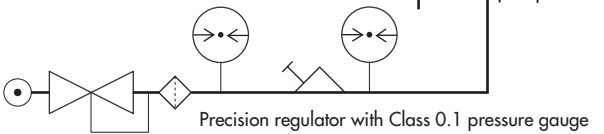

Fig. 8 · Test arrangement and modifying the measuring range
- ▶ For best results, adjust on the test bench (Fig. 8).
2. Undo the screws (1, Fig. 8) and remove the cover plate (2, Fig. 8).
3. Undo the two scale screws (5, Fig. 8), lift the dial forward toward the pointer and then remove it upward.
4. Slide the contact unit (2) onto the unit frame plate from the right so that the metal tags reach into the proximity switches without touching the contacts.
5. Secure the contact unit (2) to the unit frame using two slotted head screws (5).
7. Insert the printed circuit board (1) into the positioning notch from the left and tighten it using a Philips screw (6).
8. Replace the blanking plug of the indicating unit with a cable gland (8) M12x1.5.
10. Reposition the dial from the top and secure it to the unit frame using the scale screws (2, Fig. 8) assuring the right zero position according to section 5.1.